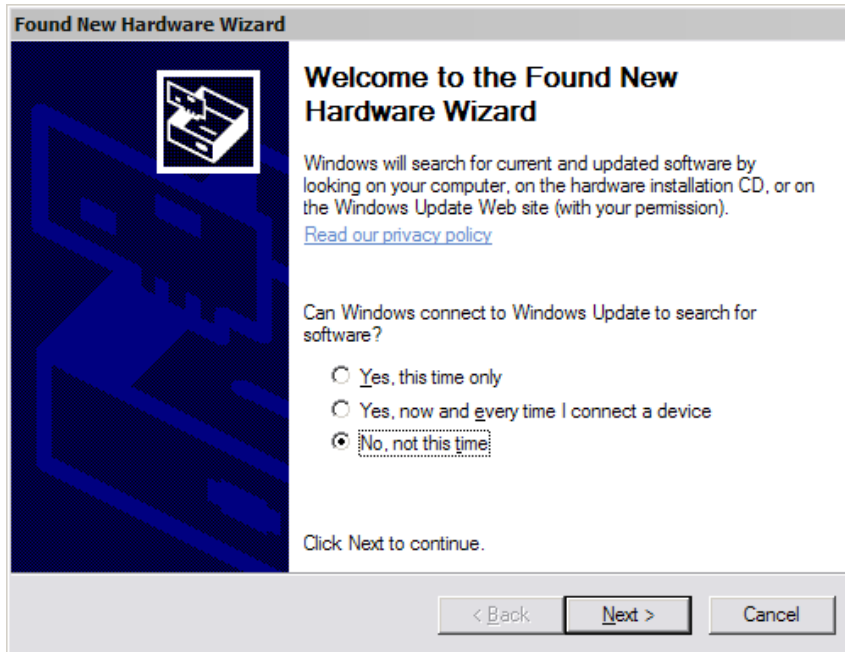
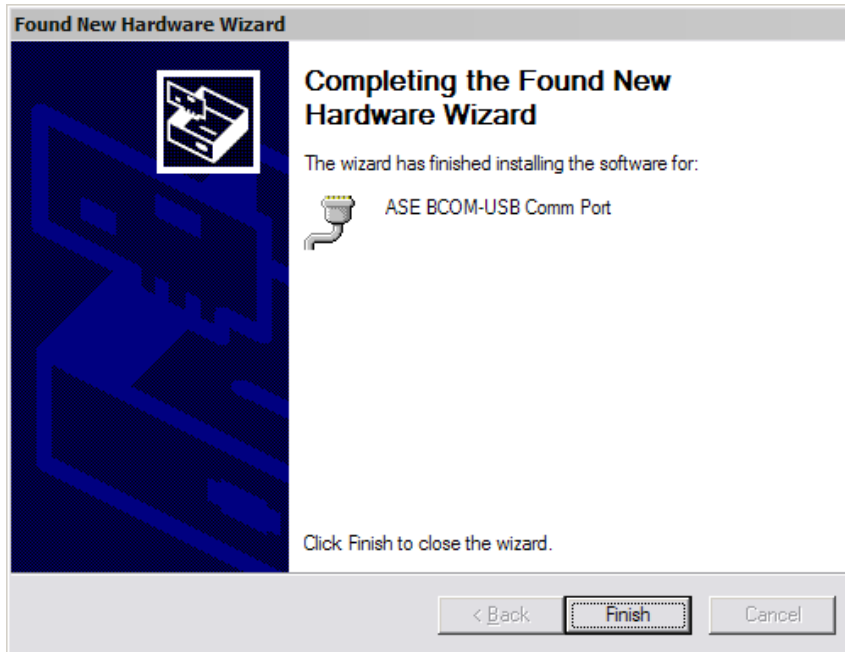

Figure 7
Figure 11
13. As with the “enumerator” installation, the steps illustrated in Figures 7 through Figure 11 will be repeated to install the second BCOM-USB Comm Port.